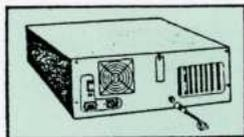

Fig.5-3
8. Plug the keyboard cable into the round keyboard socket on the rear panel, as shown in the figure 5-3.